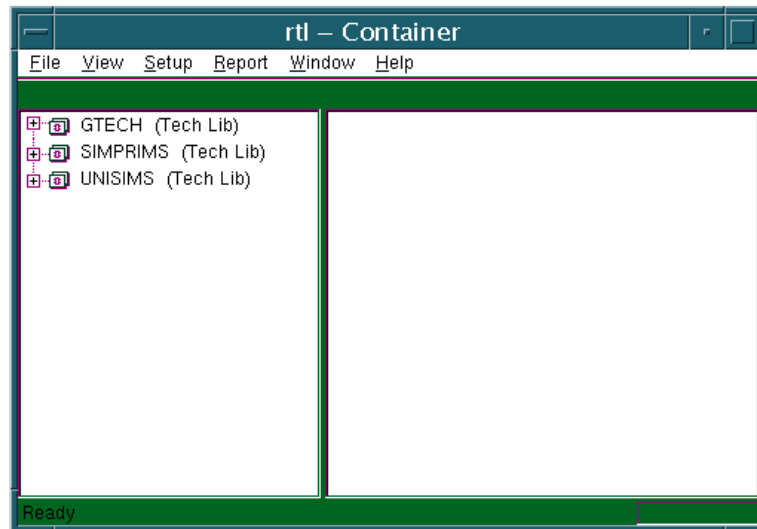

Figure 3: RTL Container GUI
5. Enter rtl on container name. We will use this container to store the RTL (reference) design. The RTL container GUI will open up, as shown in Figure 3.